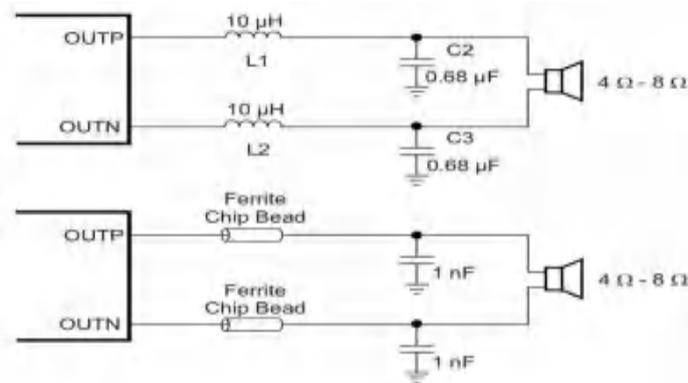

图29. Output Filters
A complete LC reconstruction filter should be added in some circuit instances. These circumstances might occur if there are nearby circuits which are sensitive to noise. In these cases, a classic second order Butterworth filter similar to those shown in 图 29 can be used.
- Output filter — The ferrite EMI filter (see 图 29) should be placed as close to the output terminals as possible for the best EMI performance. The LC filter should be placed close to the outputs. The capacitors used in both the ferrite and LC filters should be grounded.